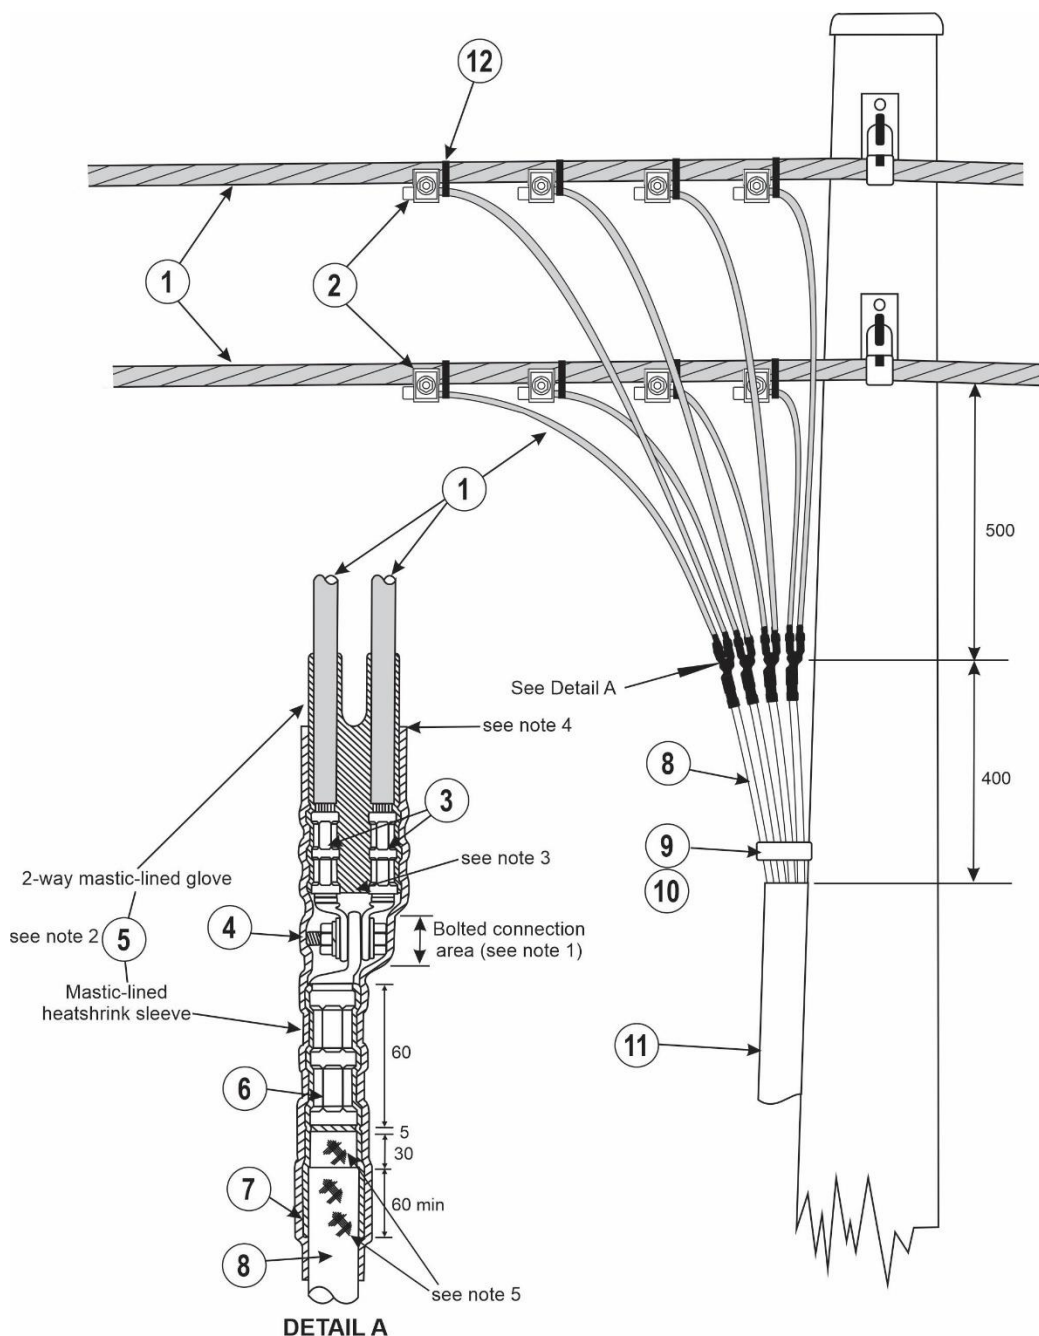

Figure 15.1 – General Arrangement (95mm² LVABC shown)
1. Cover the bolted connection area with fibreglass tape to keep it free from any adhesives flowing from item 5.
2. The heatshrink components required for the bolted connection are packaged as a single kit. Refer to item 5 for details.
5. Abrade the cable sheath and the cable insulation to the dimensions shown on Figure 15.1.